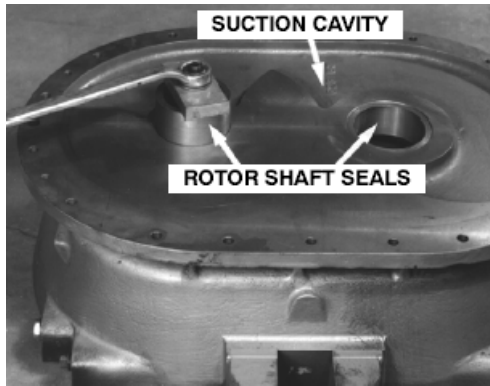
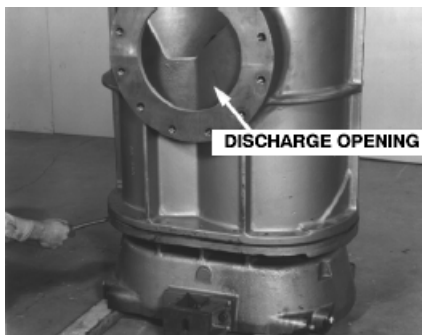

FIGURE 7-1 – ROTOR SHAFT SEAL
FIGURE 7-3 – DISCHARGE OPENING
1. Oil the O.D. of the rotor shaft seals (22, 23) to prevent seizure and press into each bore of the gear end bearing carrier (5) (FIGURE 7-1, page 41). NEVER REUSE SHAFT SEALS. Refer to "Rotor Shaft Seals," page 28, for an explanation. A simple press utilizing a bolt and two bars, one across the seal and one underneath across the bearing bore, is an effective method for installing the seal. Tightening the nut on bolt presses the seal into place. Press the seal .010" to .015" below the face of the carrier to prevent the end of the rotor from rubbing the end of the seal. A simple method is to place a .010" to .015" shim on the end of the seal under the press bar which will allow the seal to be pressed the correct distance below the face of the carrier. Handle the seal with care to prevent damage to babbitt lining.
- Place .030" thick aluminum shim (26) on the gear end bearing carrier (5). The pointed section of the shim is positioned on the machined surface of the carrier to match the contour of the housing. Lower the housing (1), as level as possible, onto the carrier with the discharge opening up (Figure 7-3), and the inlet opening matching the cavity side (FIGURE 7-1, page 41), of the carrier. Engage the dowel pins (50) with matching holes in the carrier with care. Tighten the carrier to housing screws (56, 58) evenly so the dowel pins will not be damaged.